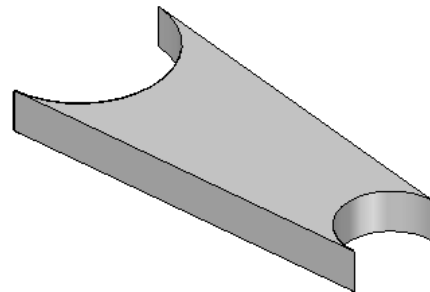

Figure 5-61 Base feature of the model
- Create the base feature on the top plane, refer to Figure 5-61.
- Exit the sketching environment and then extrude the sketch symmetrically through a distance of 10 units. The base feature of the model is shown in Figure 5-61.